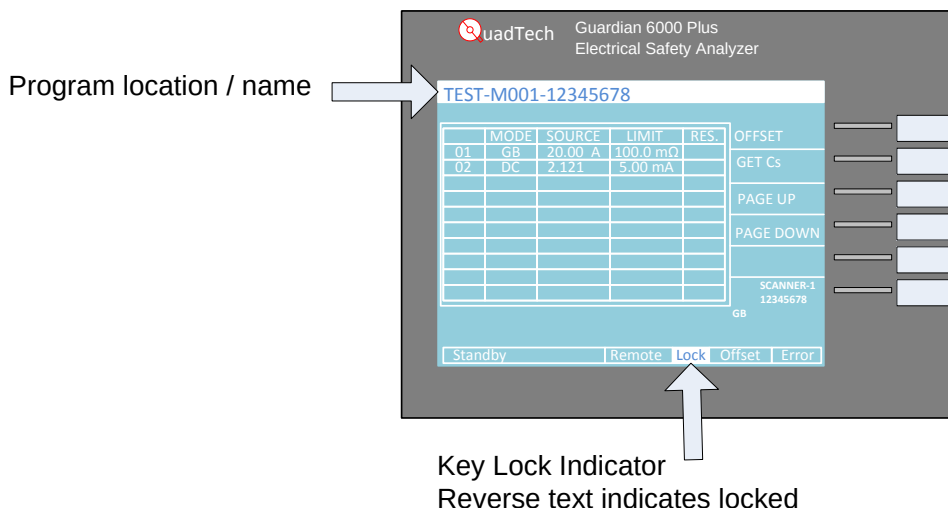

Figure 8 QuadTech Guardian 6000 Plus. / Chroma 19032 ready to test
The Key Lock indicator should be in reverse text (refer to Figure 8).
The top of the screen should read **TEST-M001-12345678** refer to (Figure 8)
- 4.1. Verify that the unit is ready to test, by verifying that the Key Lock indicator is in reverse text and **TEST-M001-12345678** is displayed (reference Figure 8). If not, do not use the analyzer, label the analyzer accordingly and notify Test Engineering immediately.